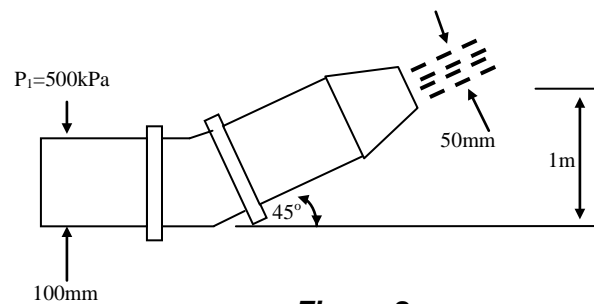

Figure 2
- [b] A nozzle is attached to a pipe as shown in Figure 2. Determine the water jet's velocity for the conditions shown in the figure. Assume the head loss in the jet is negligible.